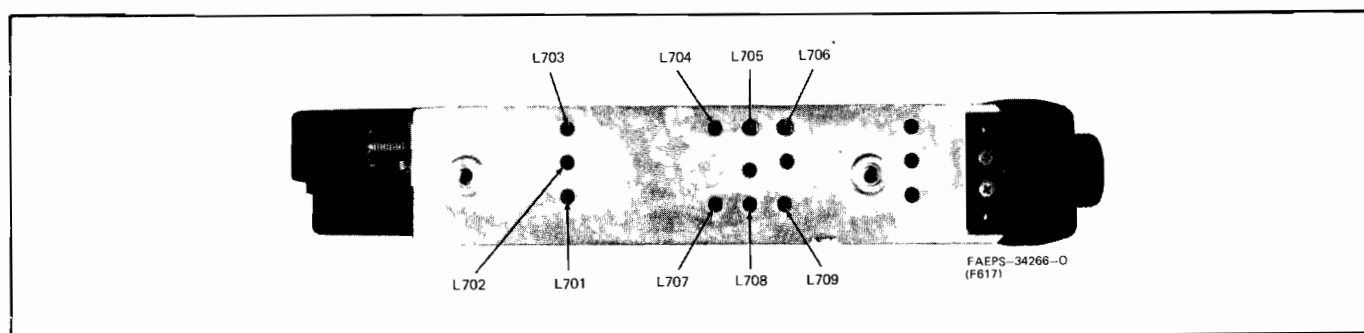

Figure 3. Dual Front End Alignment Points
Step 1. Carefully turn the slugs of the nine rf deck coils (L701 through L709) clockwise until the adjusting screws are flush with the torque nut on the rf deck housing. (Refer to Figure 3 for L701-709 locations.)